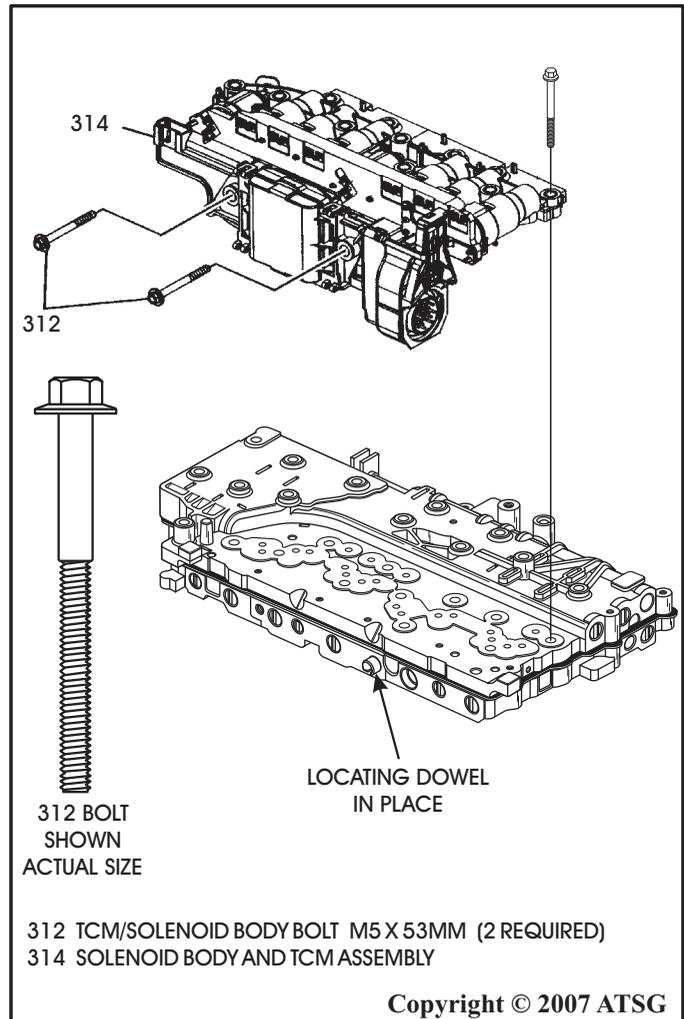

Figure 146
25. Install the Solenoid Body/TCM onto the valve body and start the two attaching bolts through the side, as shown in Figure 146, and hand tighten only at this time.
**Note:** Solenoid Body/TCM assembly must be aligned with the locating dowel, as shown in Figure 146.